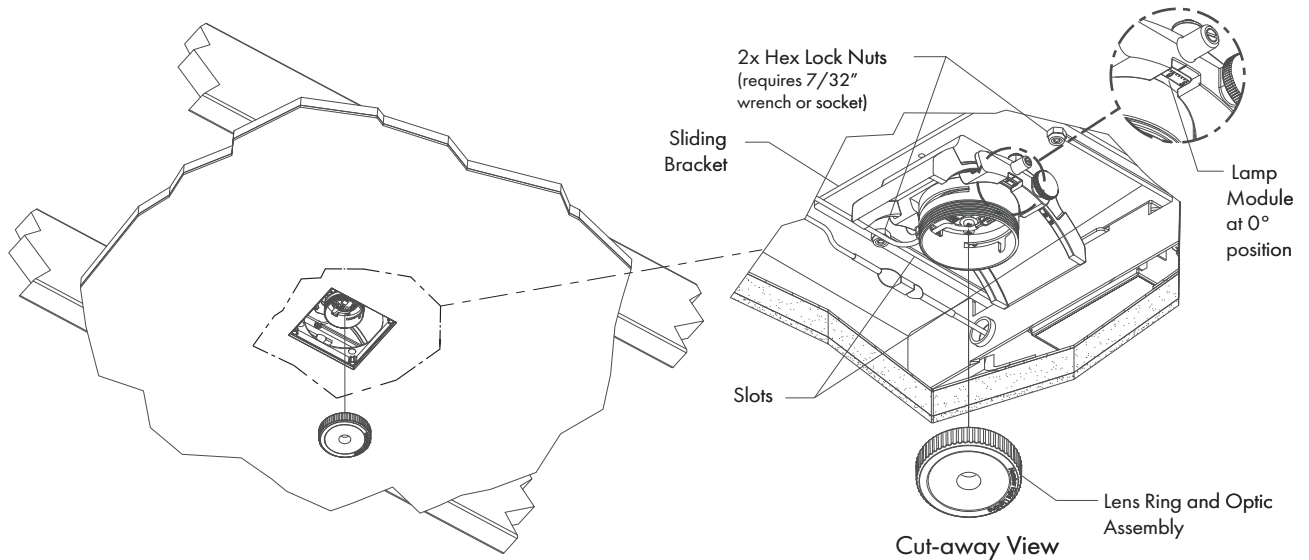

FIG 7.1 Sliding Bracket Adjustment
- STEP 1 Adjust Lamp Module to 0° position and remove Lens Ring and Optic Assembly as shown in **FIG 7.1**.
STEP 2 Locate and loosen (DO NOT REMOVE) 2x Hex Lock Nuts as shown in **FIG 7.1**.
STEP 7 Replace Lens Ring and Optic Assembly - See **FIG 7.1**.